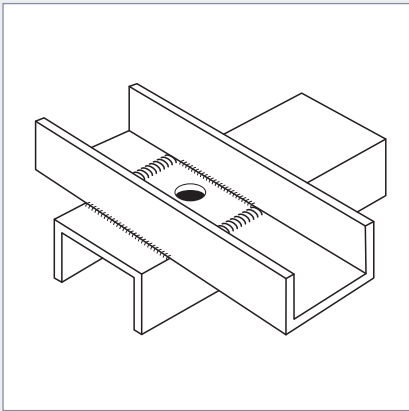

Fig. 14
**Larger overlapping surfaces.** If contacting surfaces is unavoidable, a single hole 10mm in diameter or the thickness of the section, whichever is greater, should be provided in both members for every 100cm2 of overlap area and perimeter of contacting area continuously welded (fig. 14). This is particularly important when using thin steels. Vent hole sizes for thicker steel >10mm thick and overlap areas >300cm2 should be agreed with us prior to fabrication. A vent hole in both members will ensure the safety of our employees and prevent damage.